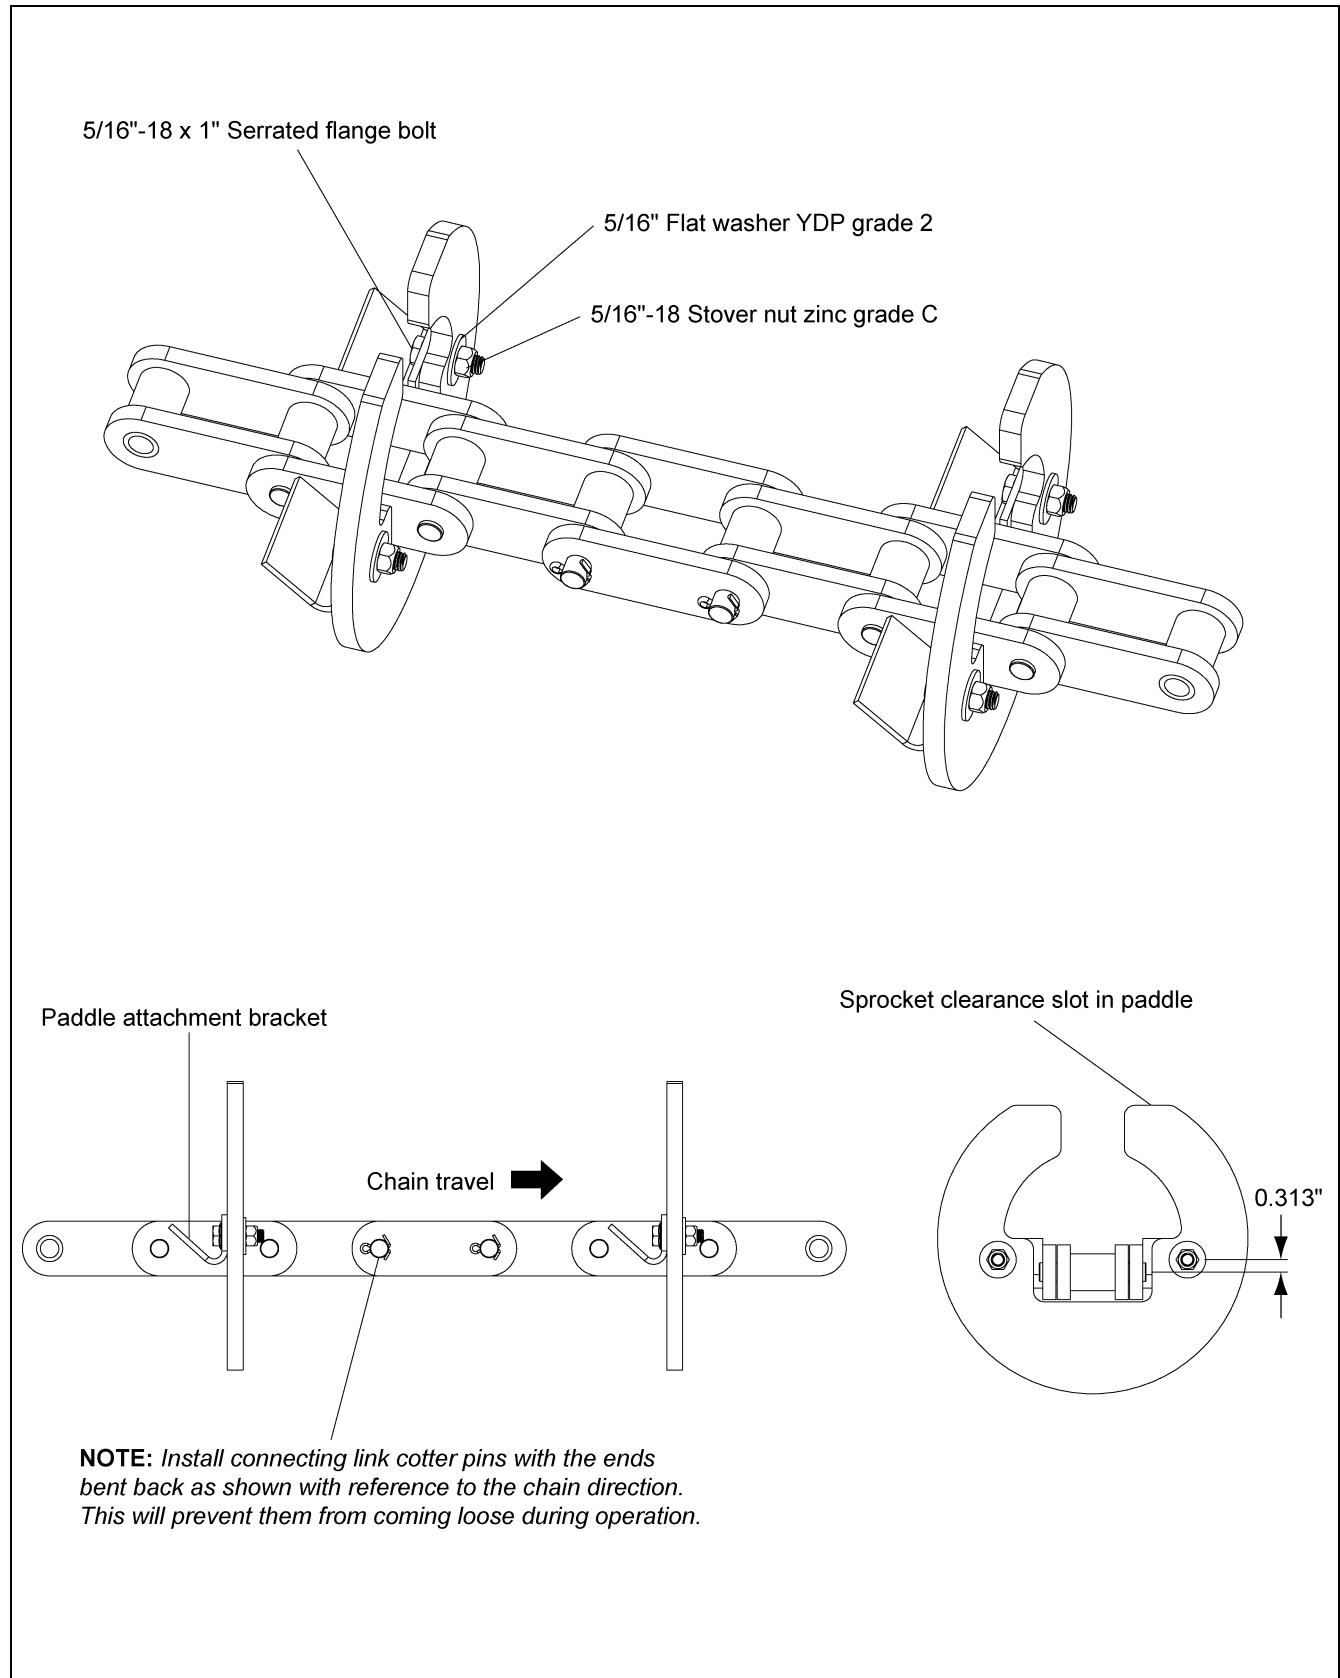

Figure 6M Chain and Paddles
The paddles are attached to the chain with 5/16" x 1" serrated flange bolts, flat washers and locking nuts. Make sure that the slots in the chain paddle brackets are oriented as shown in Figure 6M on Page 30. The head of the bolt should be inside the "V" shaped chain paddle bracket and the washer and nut should be against the face of the plastic paddle. Make sure all hardware is tightened properly to a torque of 20 ft. lbs.
The chain is shipped in 10' lengths and needs to be spliced as shown in Figure 6M on Page 30. Make sure to bend the ends of the cotter pins as shown to prevent them from working loose and causing the chain to break.
- a. Check to make sure that the master connecting links have been installed correctly. (See Figure 6M on Page 30.)